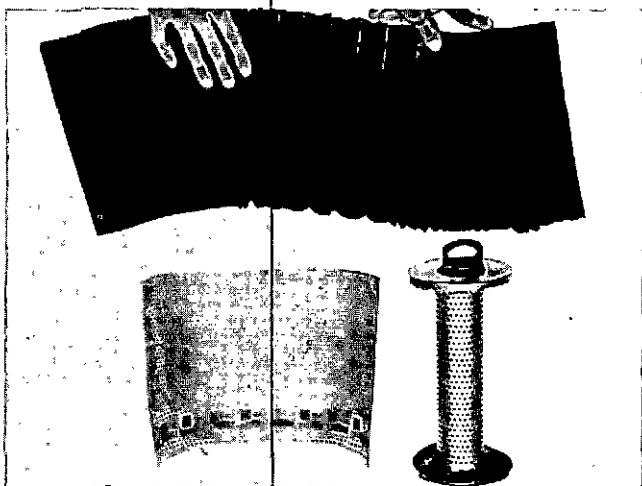

Fig. 7-4-1, V40727. Remove wrapper, inspect element pleats
3. Lift element from case; inspect element pleats for metal particles and discard. Fig. 7-4-1.